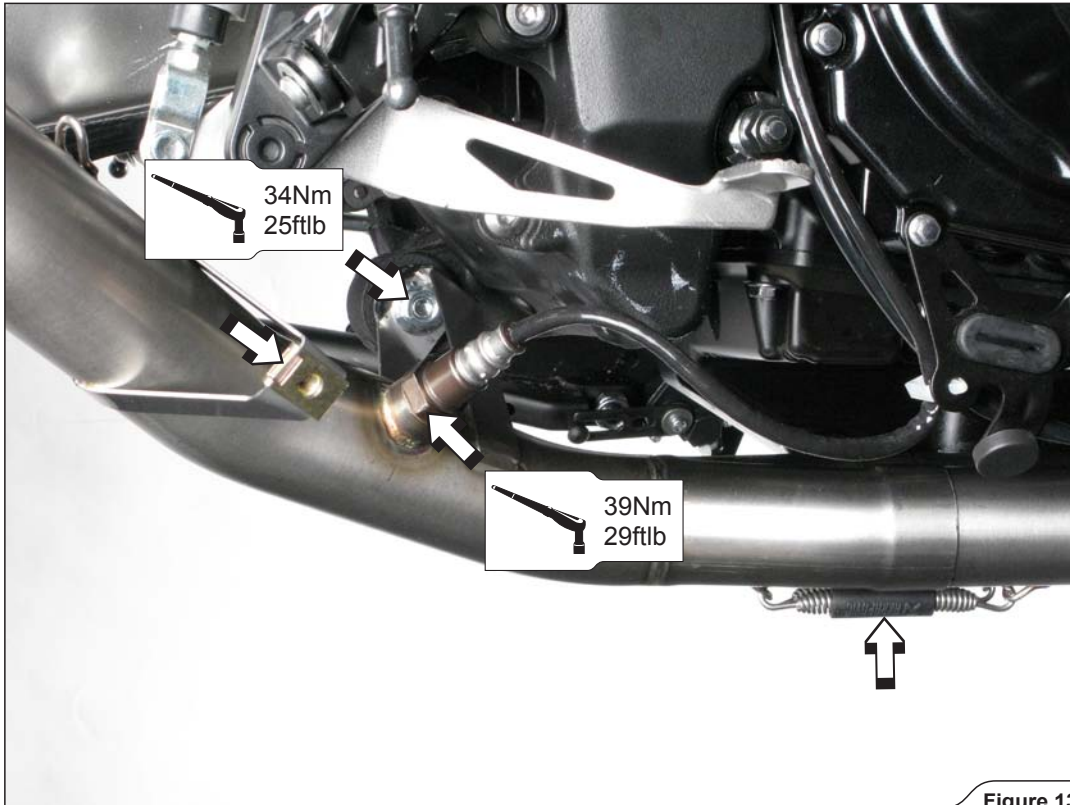

Figure 13
- Slide the link pipe all the way onto the collectors. Attach the springs, the M6 press-on nut, tighten the link-pipes' bracket onto the frame (using Akrapovič bolt and nut) and lambda sensor to a specified torques (Figure 13).